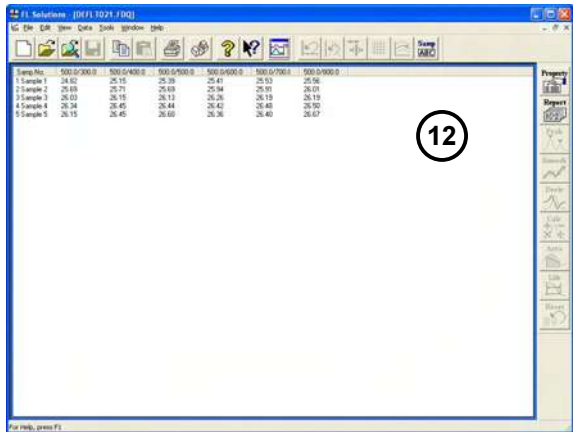

Fig. 1-40
- On measurement of the photometric value at each wavelength in multi-wavelength mode, the sample data is displayed as listed in Fig. 1-40.